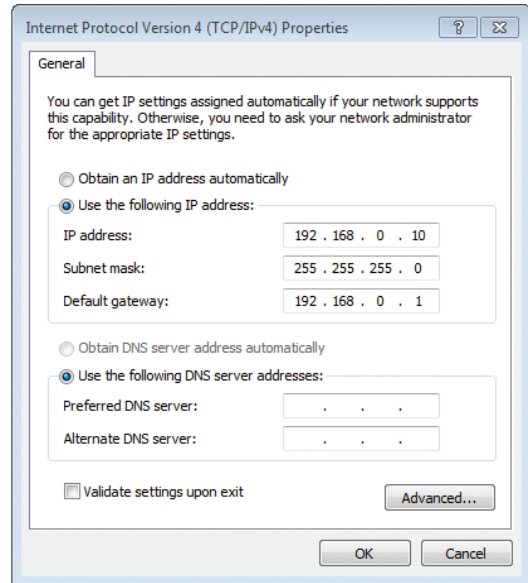

Figure 3. Internet Protocol Version 4 Properties
8. Select **Use the following IP address**. Enter the information as shown in figure 3.